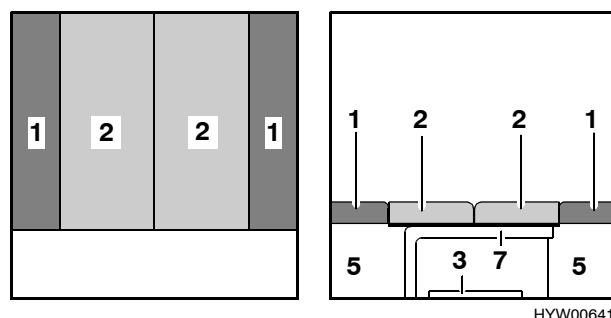

Fig. 45 After conversion
- Insert the back cushions (Fig. 45,1) between the seat cushions (Fig. 45,2) and the exterior wall.
- Push the table-top (Fig. 45,3) under the bed.